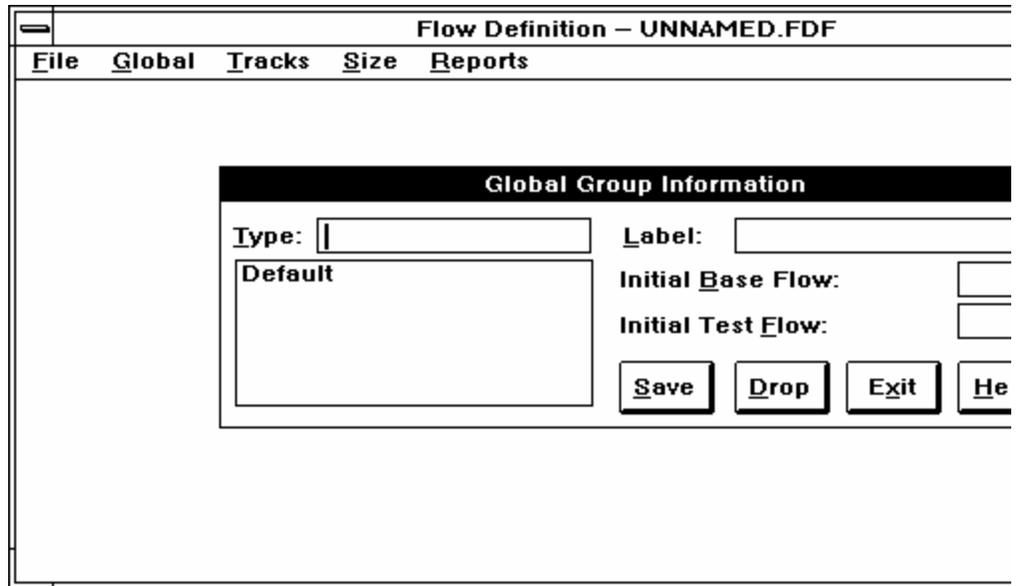

Figure 5-1. The Global Group Information dialog box.
2. Click the Groups option. A dialog box similar to Figure 5-1 will open.